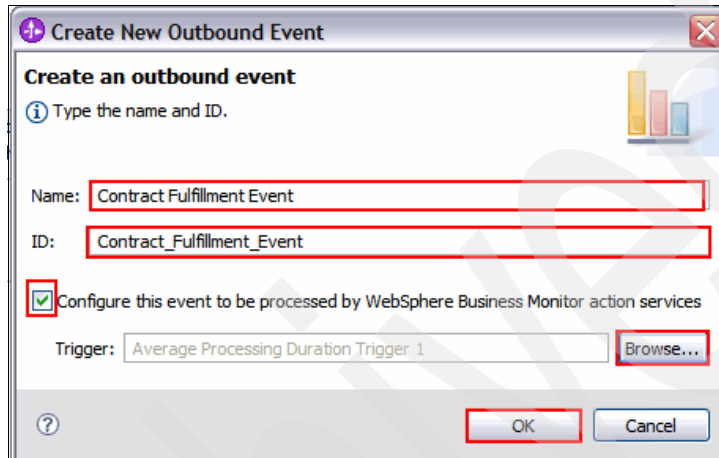

Figure 7-112 Create New Outbound Event window
- c. In the Create New Outbound Event window (Figure 7-112):